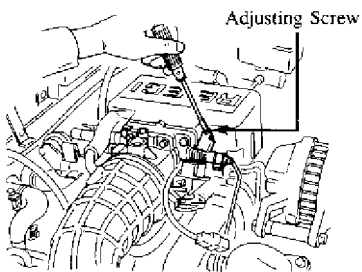

Fig. 3: Adjusting Throttle Sensor
- * If neither lamp illuminates, turn the adjusting screw clockwise until only the red lamp illuminates. Then turn the adjusting screw an additional 1/4 turn clockwise. See Fig. 3.